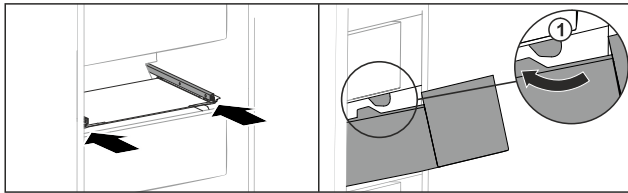

Fig. 134
- ▶ Guide drawer around the stoppers Fig. 134 (1).